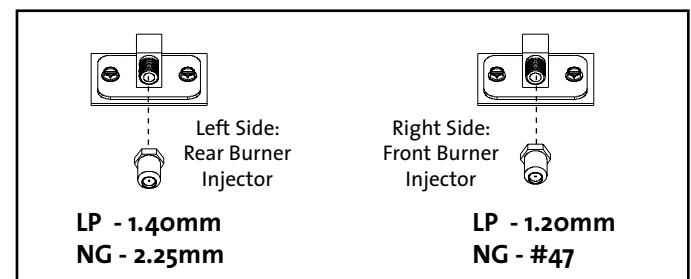

Figure 6.6.
- 6.6. **Change the Burner Injectors.** See fig. 6.6. Using a 1/2" open end wrench or deep-well socket remove both burner injectors from the brass elbow housings and replace with the appropriate injectors supplied in the kit. **Injectors are labelled: "L" = Left / "R" = Right.**